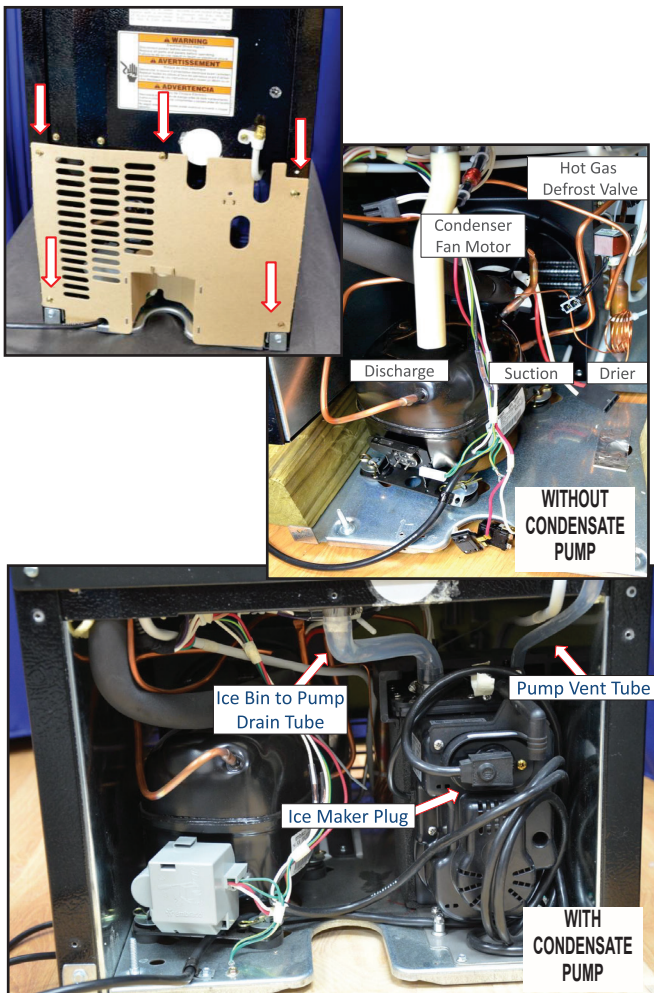

FIGURE 27
2. Remove screws and cover to access machine compartment components. See *Figure 27*.